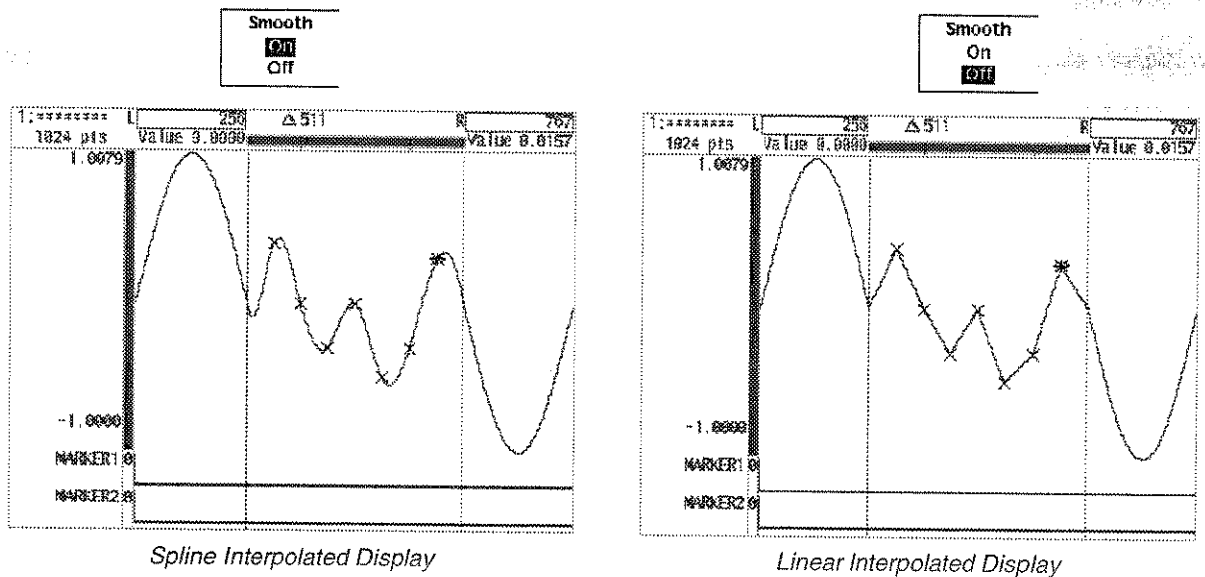

Figure 4A-30: Smoothing
- Step 8:** Select **Execute** from the sub-menu. The points between the vertical bar cursors will be connected with smooth curves, as shown in the left screen in Figure 4A-30. This is called spline interpolation.
- Step 11:** Select **Execute** from the sub-menu. The points between the vertical bar cursors will be connected with straight lines, as shown in the right screen in Figure 4A-30. This is called linear interpolation.